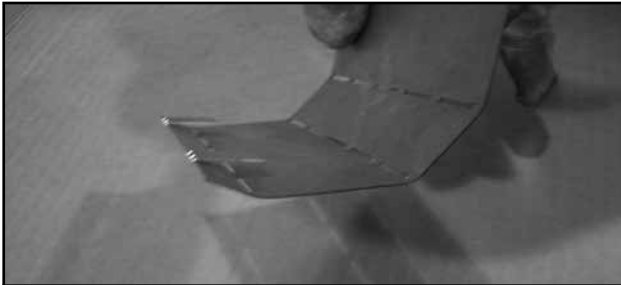

Figure 1
- Bend hand brakes of fan bracket as shown in Figure 1.